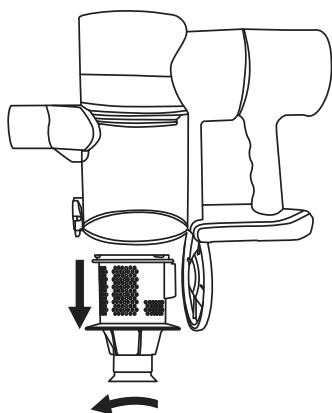
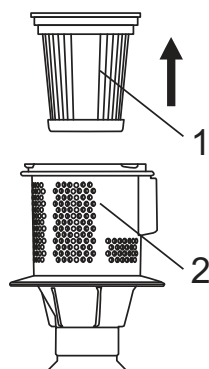

Figure 5
Figure 6
2. Open the bottom of the dust cup and turn it anticlockwise to take out the filter screen, as shown in Figure 5 ; Remove the HEPA (1) from the filter screen for cleaning or replacement (note that only the washable HEPA can be washed with water) ,clean the filter screen (2), and dry it after washing before it can be loaded into the dust cup and continue to use Figure 6.